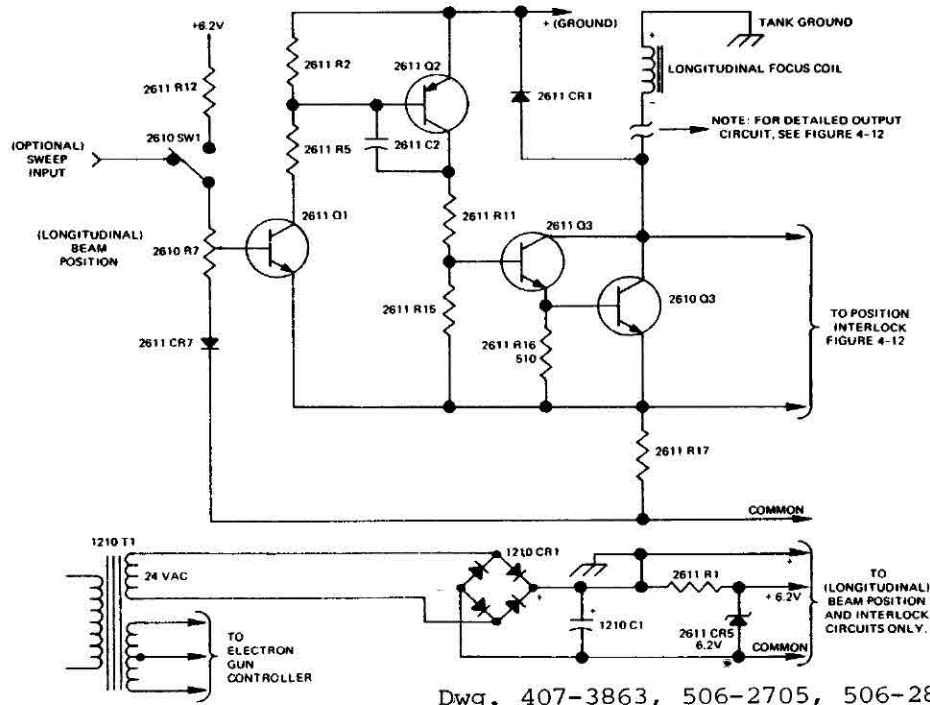

Figure 4-11. CV-14 A and B longitudinal beam position (focus) control circuit
4.4.1 Longitudinal Beam Position Focus Control (Figures 4-11 and 4-12)